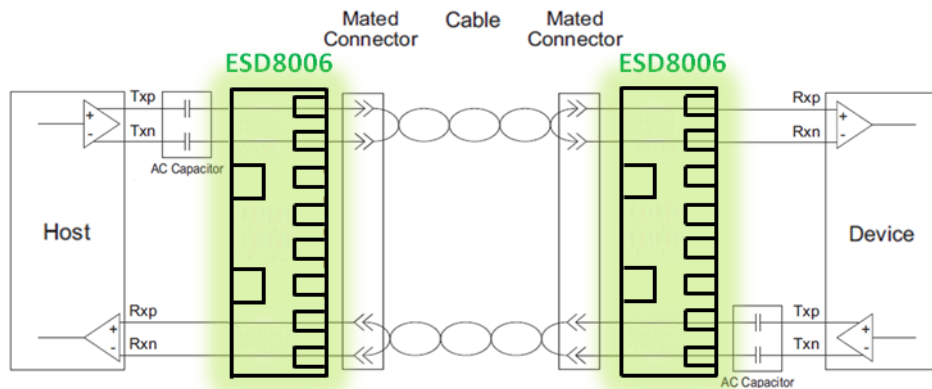

Figure 18. USB 3.0 Connection Diagram
- ♦ In USB 3.0 applications, the ESD protection device should be placed between the AC coupling capacitors and the I/O connector on the TX differential lanes as shown in Figure 18. In this configuration, no DC current can flow through the ESD protection device preventing any potential